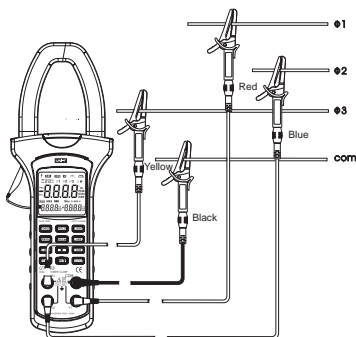

Figure 31
1. Press the **MENU** to select AC Voltage (main display) + AC Voltage (left secondary display) + AC Voltage (right secondary display) range as figure 31.